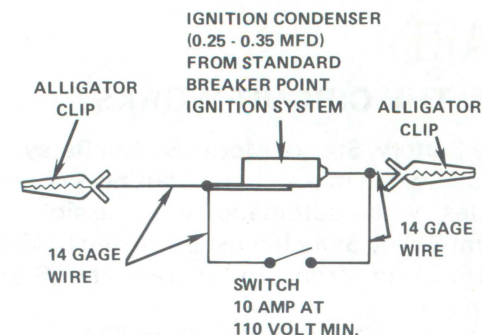

Figure 1 - Ignition Test Jumper
Make up a test jumper as shown in Figure 1 below. It is important to use only this test jumper when making these checks. Solid wire jumpers will not work for the quick checks.
- In the harness side of the connector, connect the special test jumper (Figure 1) between the **DG/Y D** lead and the **BK/LG D** or **BK** leads. Use paper clips on connector socket holes to make contact.